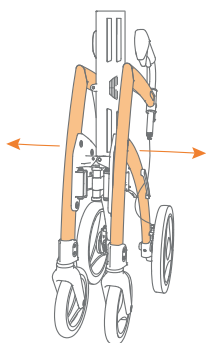

Figure 14: Unfold by pulling the frame outwards.
- Pull the frame sides of the Rollz Motion Electric apart until almost completely unfolded (**Figure 14**).